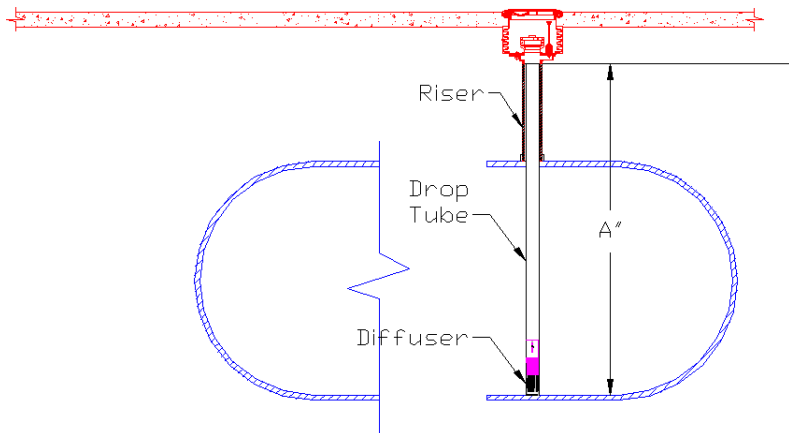

Figure 5
6. Install drop tube with Diffuser back in the tank. Use a Gauge stick to push the Diffuser to the bottom of the tank to ensure proper placement. Figure 5 shows the final installation.